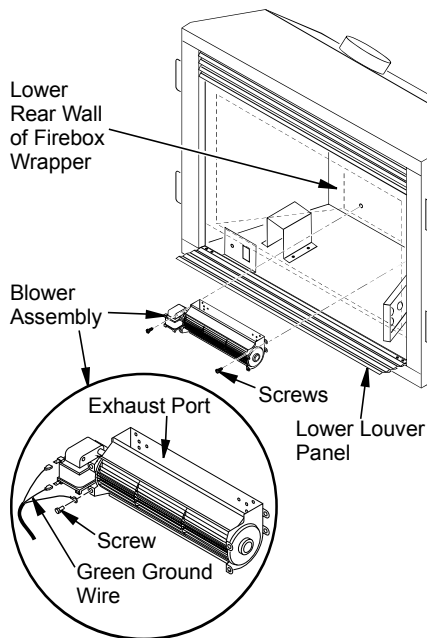

Figure 26 - Mounting Blower to Firebox
1. Open lower louver panel as shown in Figure 26.
3. Attach green ground wire from power cord to blower housing using screw provided (see Figure 26). Tighten screw securely.
4. Place the blower under the firebox and against the lower rear wall of firebox outer wrapper with the exhaust port directed upward. Align the holes in the top mounting tabs of blower with holes in wall of wrapper (see Figure 26). Using the two screws provided, mount blower and tighten screws securely.